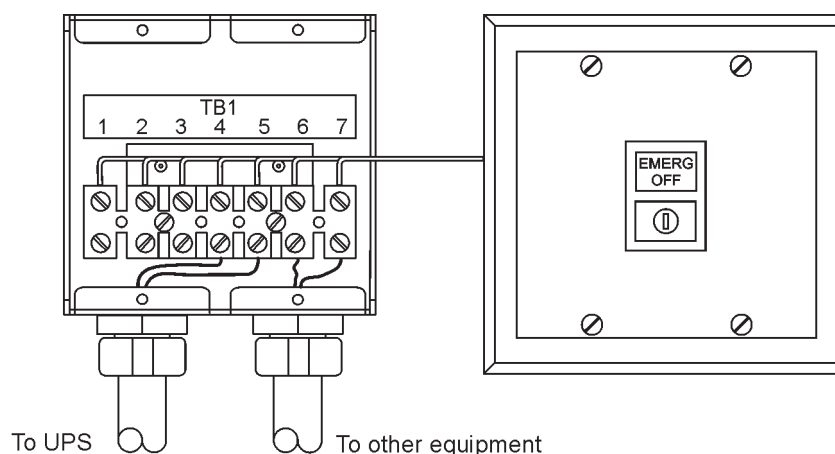

Figure 4-27. Remote EPO switch
A remote EPO switch can be used in an emergency to shut down the UPS and remove power to the critical load from a location away from where the UPS is installed. Figure 4-27 shows a remote EPO switch.
13. If required, install wiring from the remote EPO switch to the trip circuitry of the upstream protective devices. A normally-open (NO) contact is provided between terminals 6 and 7 of the remote EPO switch (where applicable), as shown in Figure 4-27. Remote EPO switch wiring must be in accordance with electrical code requirements.